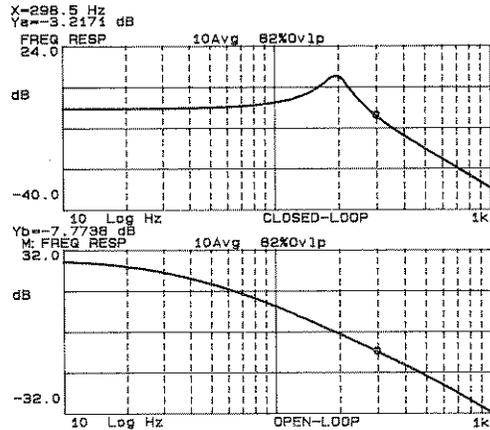

Figure 9-10 Calculating Open-Loop Response
T/1 - T calculates open-loop response from a measured closed-loop frequency response curve, as the example in figure 9-10 shows. To yield a valid result, the measured response (T) must be the active trace.